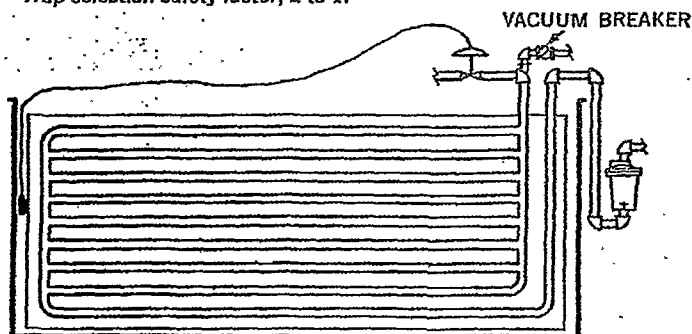

Fig. 35-3. Thermostatic controlled coil syphon drained. Use vacuum breaker check valve. Trap selection safety factor, 3 to 1 with "LV"—"CV" trap.
**Syphon Drainage.** Embossed coils frequently are used for heating open tanks through which it is not practical to make a gravity condensate drain connection. Condensate must be syphoned from the bottom of the coil over the tank wall to the trap (See Fig. 35-3). To keep the coil drained, the minimum steam pressure in pounds should never be less than the syphon lift in feet. Use "LV" (enlarged vent) traps installed below the high point of the syphon.
A vacuum breaker check valve should be installed between the control valve and the coil to admit air to the coil when the vacuum forms. See Fig. 35-3.